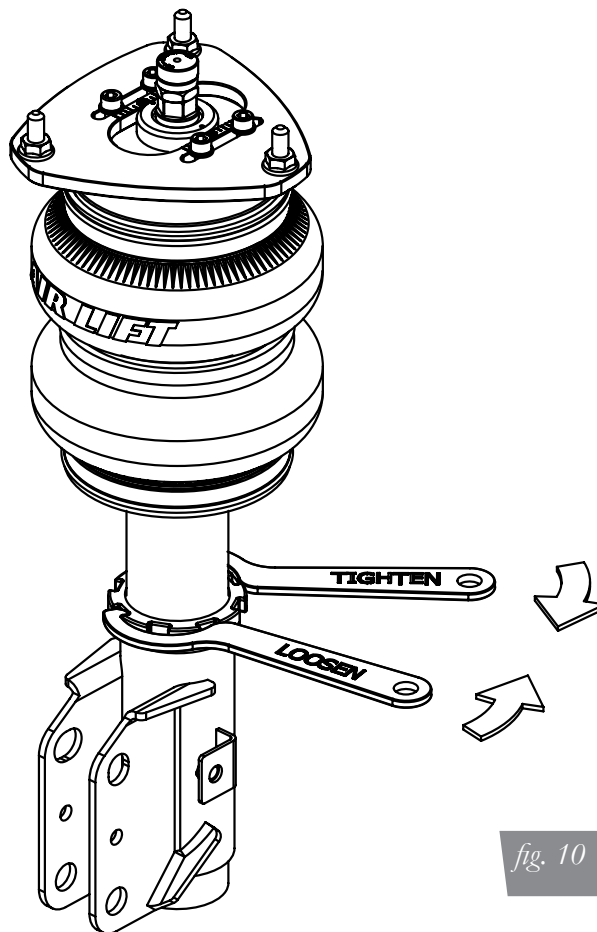

fig. 10
3. Using the supplied spanner wrench, loosen the lower locking collar. (fig. 10)